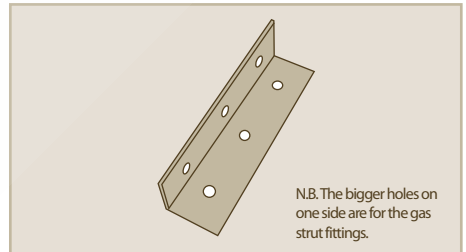

Figure 6
- ✓ 4 x Angle mounting brackets, See Figure 6.
1 x Angle mounting bracket, See Figure 6. Fasteners included with strut